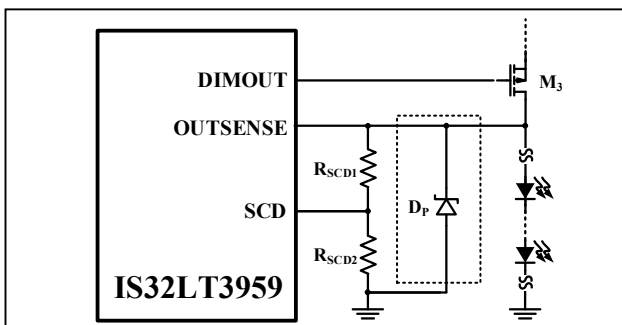

Figure 59 Schottky Diode for Hot Plugging Protection
- (2) Minimize the PCB area of the switching current loops. The input capacitors C_{IN}, inductor L₁, power switches M₁ and M₂, Schottky diodes D₁ and D₂, current sense resistor R_{CS}, and output capacitors C_{OUT} should be placed as close to each other as possible and the trace connections between them should be as short and wide as possible.
- (3) The (-) terminals of the input capacitors C_{IN} should be connected as close as possible to the (-) terminals of the output capacitors C_{OUT}.
- (4) Connect the bootstrap capacitor, C_{BST} , close to the BST and SW pins.
- (5) The output OVP setting resistor divider, R_{O1} and R_{O2} , must be placed as close to FB and AGND pins as possible.
- (6) The LED short detection resistor divider, R_{SCD1} and R_{SCD2} , must be placed as close to SCD and AGND pins as possible.
- (7) The ground of the current sense resistor, R_{CS} , should be directly connected to SGND pin by a separate trace to prevent SGND plane jitter and ensure precise sensing.
- (8) To avoid ground jitter, the parameter setting components should be placed close to the corresponding pins and return to the AGND pin, and keep their trace length to the pins as short as possible. On the other side, to prevent the noise coupling, the traces of these components should either be far away or be isolated from high-current paths and high-speed switching nodes. These practices are essential for best accuracy and stability.
- (9) The capacitors C_{VCC} and C_{VDD} should be placed as close as possible to VCC and VDD pin for good filtering.
- (10) In practice, if the LED string is far away from the driver board and connected through long cables, the parasitic inductance in the cables will form a LC-resonant circuit with the C_{OUT} . In the case of hot plugging the output connector or an unreliable connector, this LC-resonant circuit will crease oscillation on the OUTSENSE pin due to the C_{OUT} fast discharging. This oscillation could subject the OUTSENSE pin to negative spike voltages exceeding their Absolute Maximum Ratings that may permanently damage the OUTSENSE pin. Add a 60V/1A Schottky diode D_P from the OUTSENSE pin to GND (placed close to OUTSENSE pin) to avoid this negative spike voltage. Figure 59.